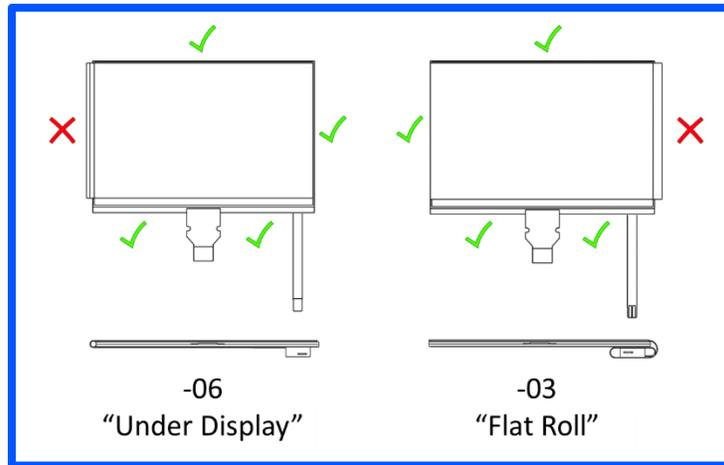

Figure 13. Identification of edges to be used for handling and mounting Azumo LCD 2.0 in final product.
- When handling the product, grasp onto the LCD edges that are not covered by the FLP (see Fig. 13).
- a. Non "OB" Display Assemblies: Mount the Azumo LCD 2.0 product within its final assembly by providing support along the back of the LCD panel and/or along the hard edges of the LCD panel glass not covered by the FLP, as shown in Fig. 13. Avoid mechanical contact with FLP.